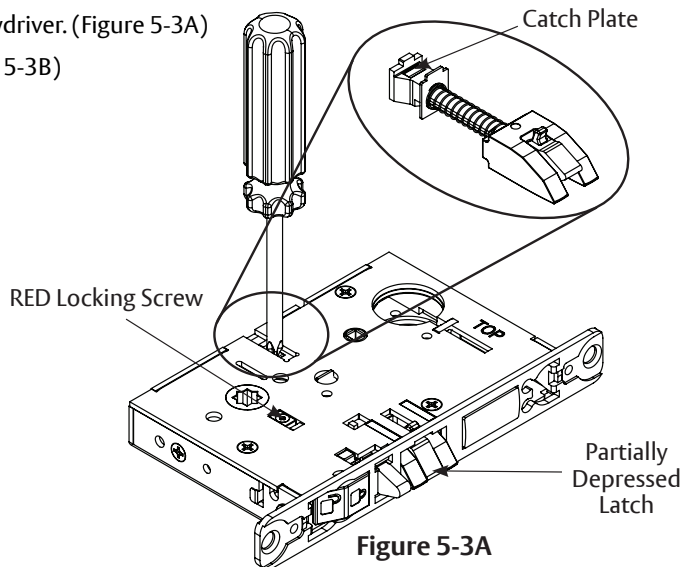

Figure 5-3A
1. Move red locking to side of lockbody being locked. (Figure 5-3A)
2. Push in latch partially then depress catch plate with screwdriver. (Figure 5-3A)